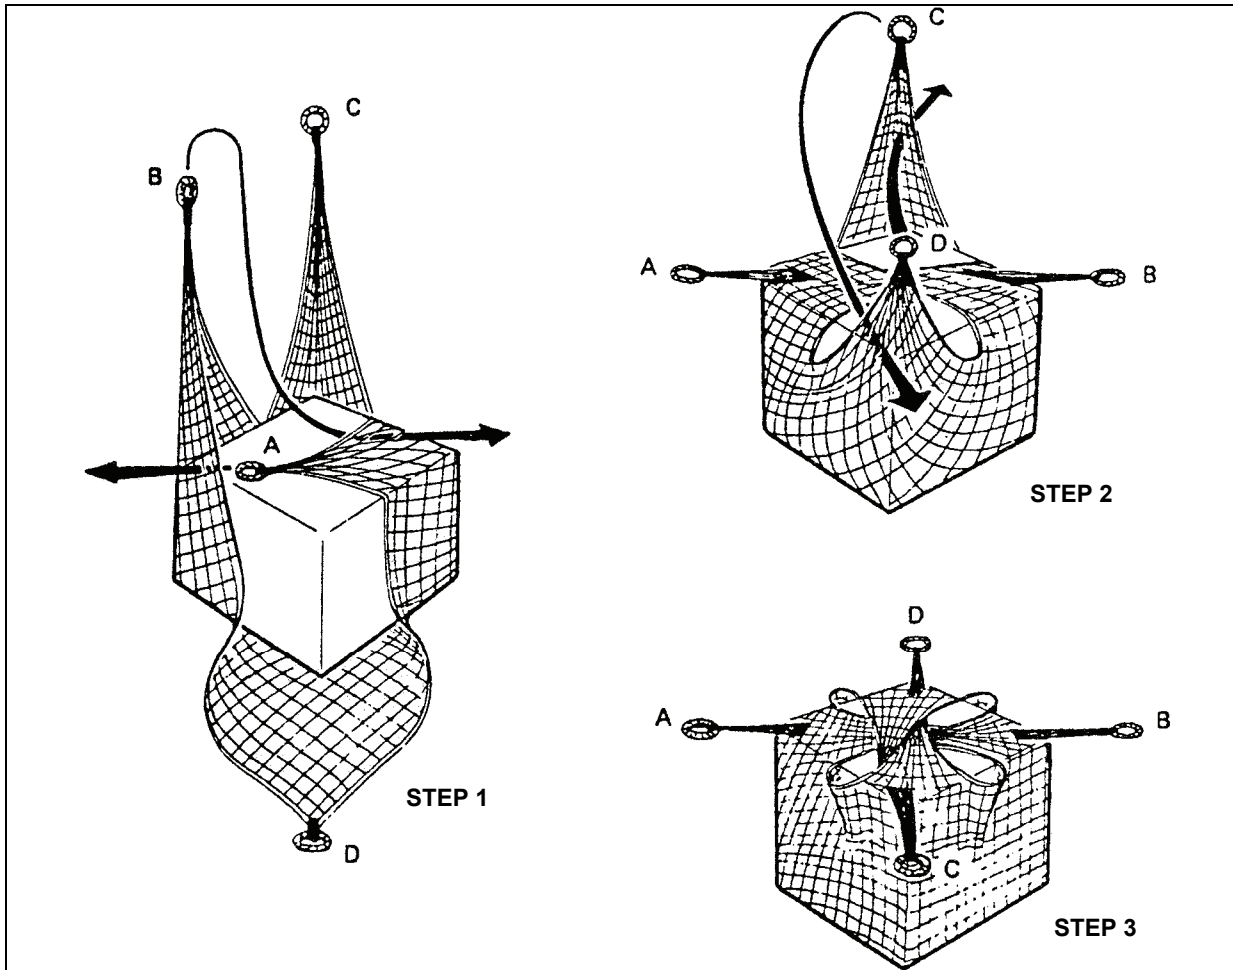

Figure 9-7. Cargo Net with Loose Cargo Secured
- **Cargo Net Loading (Loose Cargo) (Figure 9-7).** Use nets for transferring general cargo. Observe the following rules when loading cargo nets:
Note: One method of safeguarding small items against loss in flight is to secure the corners of the net together by taking opposing corner rings and weaving them through at least two web straps in the webbing below the opposite rings. Figure 9-7 illustrates the steps to be used. Fasten the sling leg through all four corner rings. When the helicopter lifts the net, the weight of the load will cinch the net and prevent the items from being lost through the net.